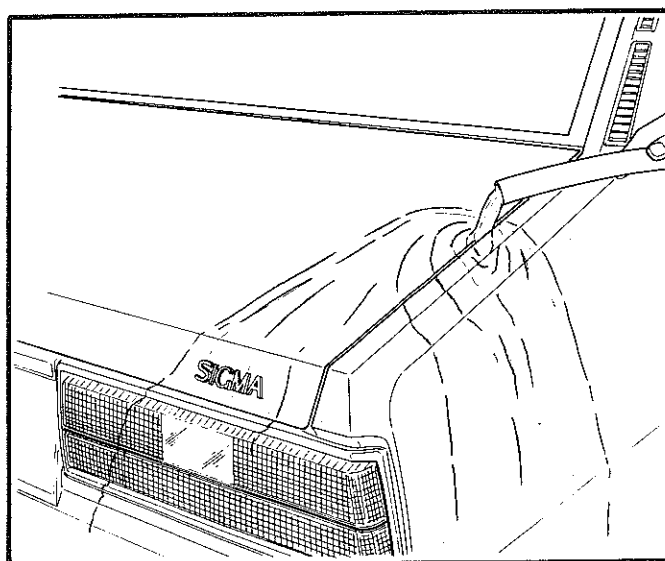

Fig. 7—Decklid water test
(1) First check to see if the decklid is flush with the surrounding metal surfaces.
(2) Open the decklid and examine the weatherstrip flange for distortion. Check weatherstrip for splits or improper alignment, correct as necessary. Water test as shown in Fig. 7.